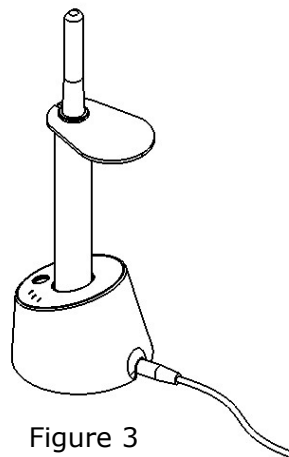

Figure 3
4. Plug the connector of the power supply into the back of the charging base as shown in Figure 3. Plug the other end of the power supply into the appropriate electrical outlet. As mentioned above, wait for at least 6 hours to completely charge the light before the first use.